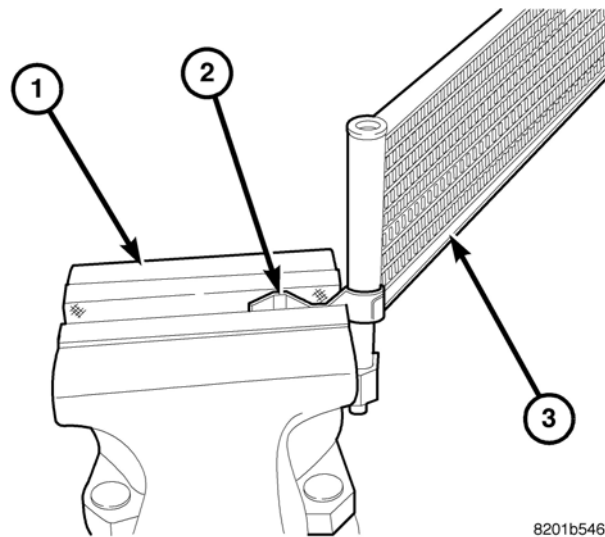
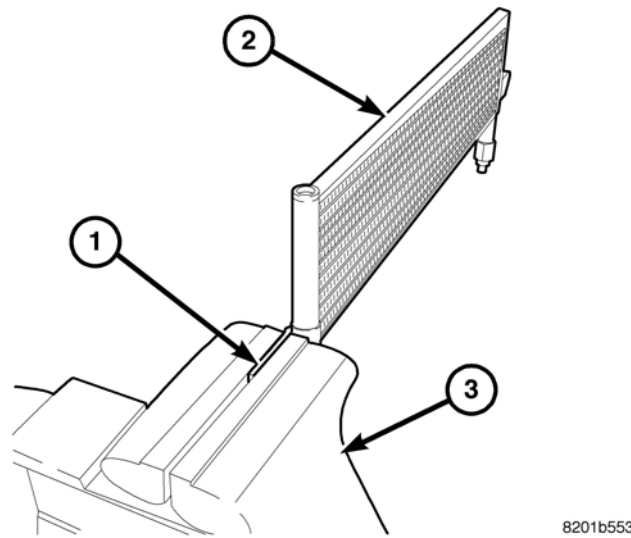

Fig. 3 STRAIGHTENING RIGHT TRANSMISSION COOLER BRACKET
Fig. 4 STRAIGHTENING RIGHT COOLER BRACKET
6. Place transmission cooler (p/n 05183566AA) right mounting tab/bracket into a vise and straighten the tab/bracket, (Fig. 3) and (Fig. 4).